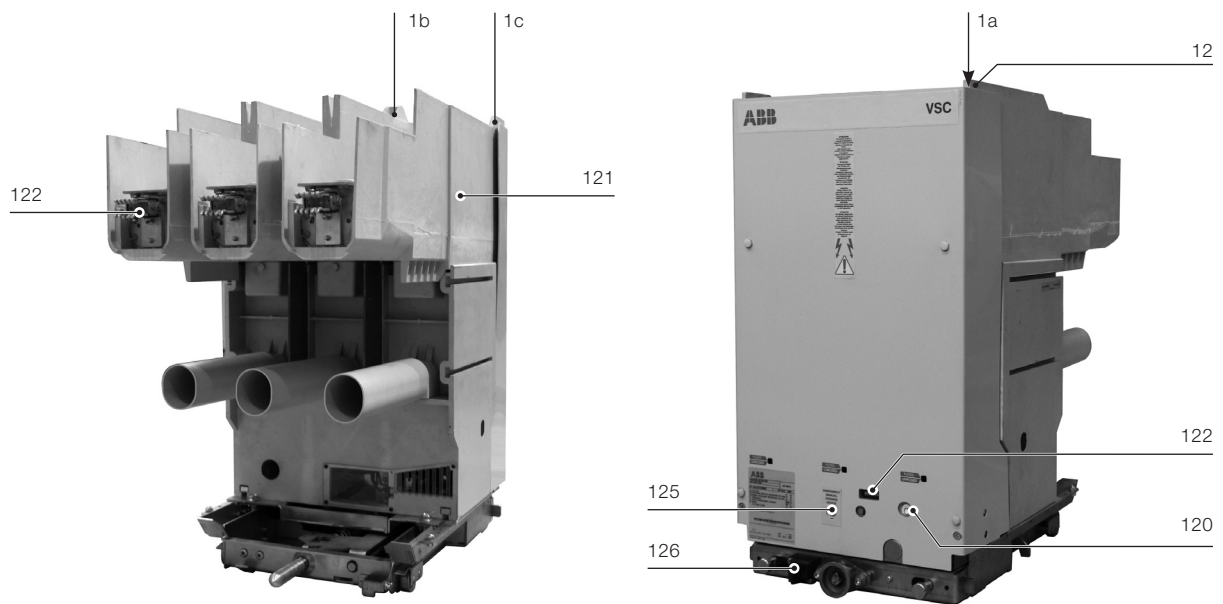

Fig. 12
- a fuseholder complete with terminals for fuses (121). In the upper part there are strikers 1a, 1b and 1c (fig. 12 - page 29) for activating the enclosure contacts for signalling the connected/test/isolated position
- a mechanical open/closed signalling device (120)